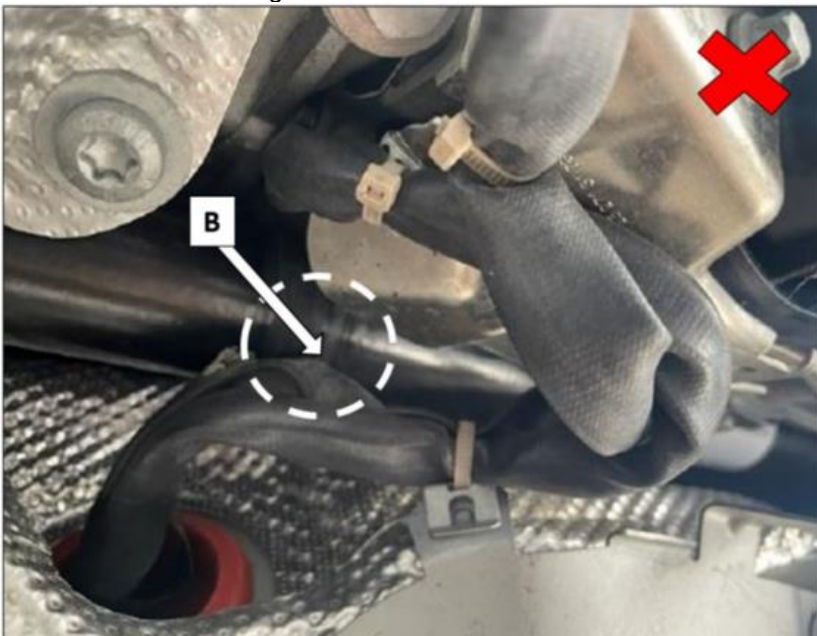

Figure 2, condition not OK
2. Check routing and clearance (B, Figure 2) between the electrical wiring harnesses and the transmission tunnel/drive shaft, and the transfer case for the front axle differential.